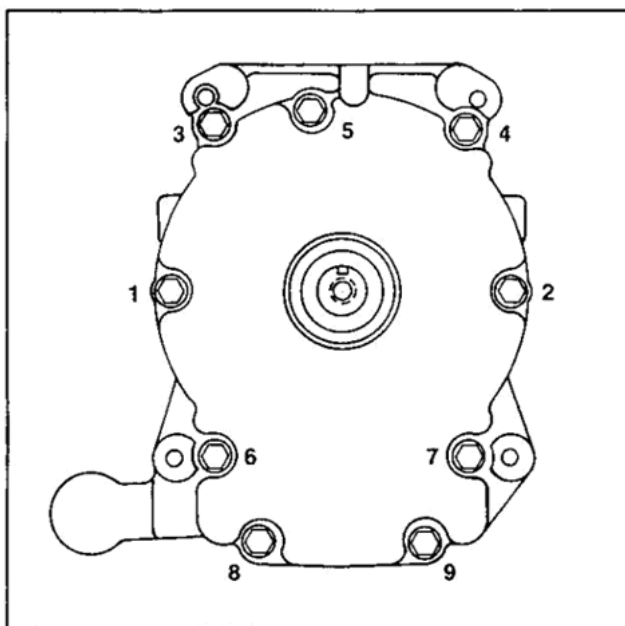

Figure 11-26. Oil Pan Fastener Torque Sequence.
5. Install the oil pan and hex. flange screws to crankcase. Torque screws to **150 in. lb.** in the sequence shown in Figure 11-26.